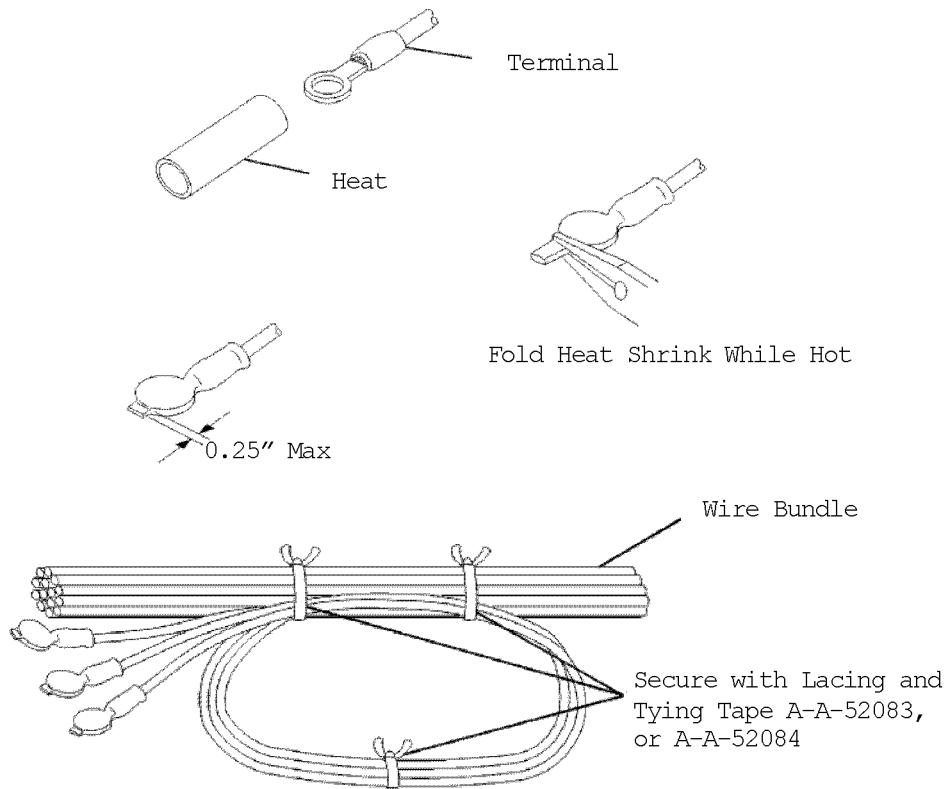

Figure 12. Terminal Stowing
d. Group together and secure to adjacent wire bundle or structure using tying and lacing tape A-A-52084, or A-A-52083. The preferred method of securing the terminals is parallel and directly on to existing wire bundles. Only if the length of the wires to be stowed is excessive, shall the wire be coiled (see Figure 12).